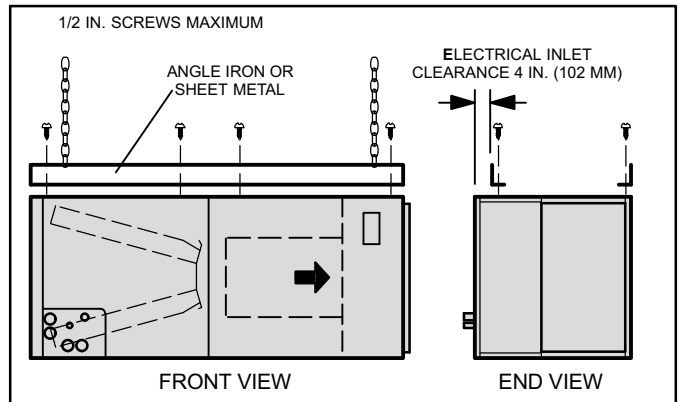

Figure 3. Suspending Horizontal Unit
2. If the unit is suspended, the entire length of the cabinet must be supported. If you use a chain or strap, use a piece of angle iron or sheet metal attached to the unit (either above or below) to support the length of the cabinet. Use securing screws no longer than 1/2 inch (12.7mm) to avoid damaging the coil or filter as illustrated in Figure 3. Use sheet metal screws to connect the return and supply air plenums as required.
15. If suspending the unit, it must be supported along the entire length of the cabinet. If using chain or strap, use a piece of angle iron or sheet metal attached to the unit (either above or below) so that the full length of the cabinet is supported. Use securing screws no longer than 1/2 inch (12.7mm) to avoid damage to coil or filter as illustrated in Figure 3 on page 6. Connect return and supply air plenums as required using sheet metal screws.